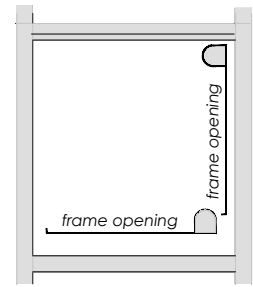

FIG. 1
- a. Make sure frame opening (F.O) is plumb and level. Measuring corner-to-corner is easiest way to make sure it is square. See **FIG. 1**